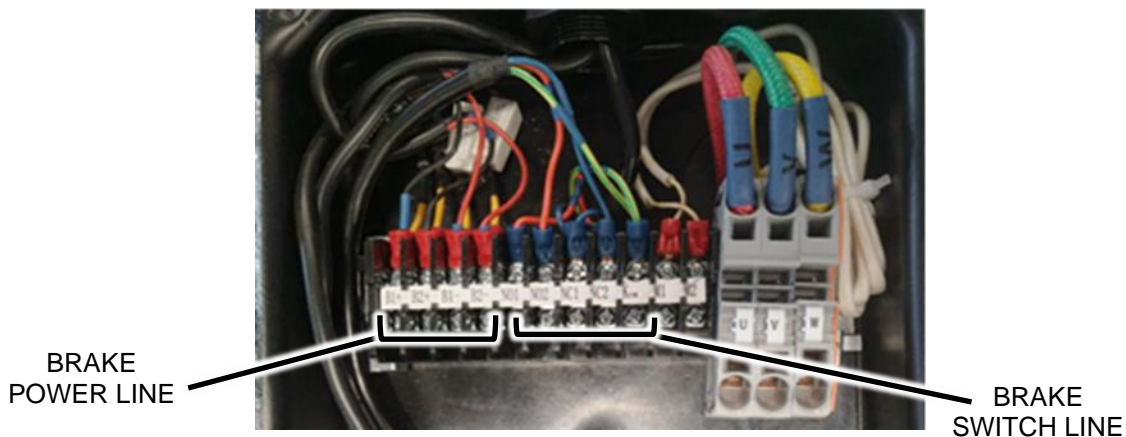

Figure 39
3. On the machine side disconnect the Brake and Brake Switch wires for the brake that is to be worked on (Figure 39).